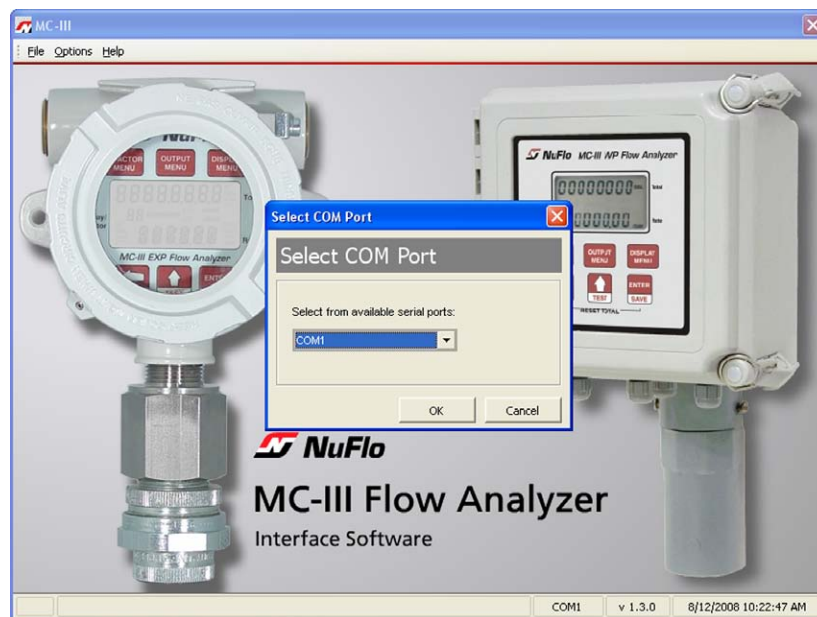

Figure 4.2—Select COM Port window
Click the Help menu in the task bar at the top of the Welcome screen (*Figure 4.2, page 46*) to access documentation for installing, configuring, and operating the MC-III EXP flow analyzer. This documentation includes:
1. Click on the NuFlo MC-III icon on the desktop, or select Start>Programs>NuFlo>MC-III 2.1.0>MC-III 2.1.0. The Welcome screen (Figure 4.2) will appear and a Select COM Port window will prompt the user to select the communications port to be used to connect with the MC-III EXP (Figure 4.2).